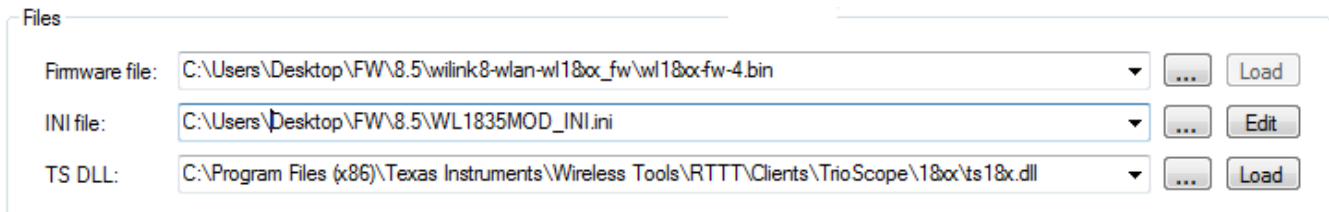

Figure 7. Selecting the Firmware Files to Download
- (a) Click the firmware and INI file path and browse to the location of the file, as shown in Figure 7.